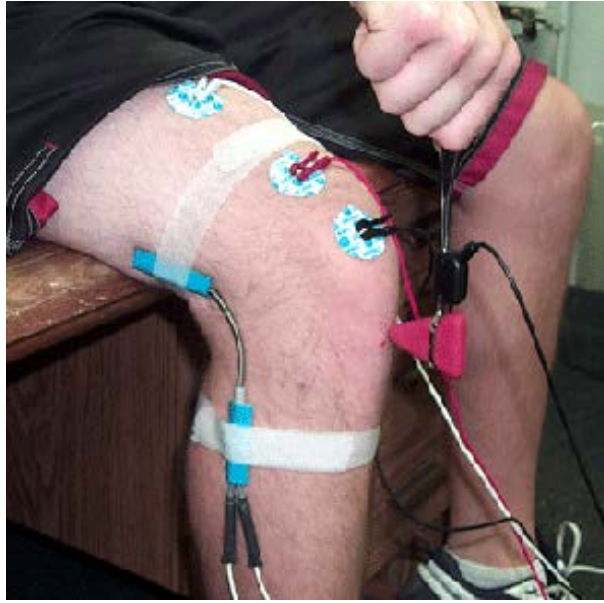

Figure 7: Electrode positioning for knee jerk reflex
1. Place two electrodes on the quadriceps muscle on the front of the thigh, approximately 10 cm apart (Fig. 7). Connect the leads as described below: